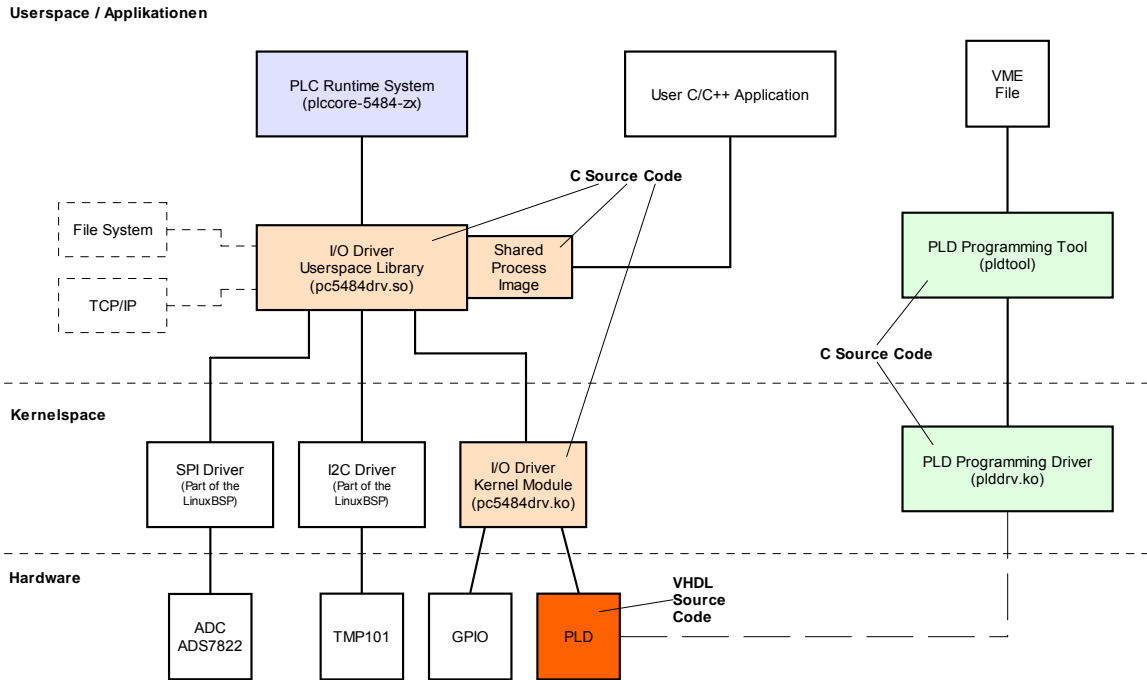

Figure 33: Overview of the Driver Development Kit for the PLCcore-5484
Figure 33 provides an overview of the DDK structure and its components. The DDK contains PLD resp. FPGA software sources (VHDL) as well as the source code of the Linux kernel driver (*pc5484drv.ko*) and the Linux user library (*pc5484drv.so*). Additionally, the DDK includes a PLD Programming Tool (*pldtool + plddrv.ko*) which allows for a PLD software update without extra JTAG hardware.
2. Source code for the Linux kernel driver (pc5484drv.ko, see Figure 33); includes all files necessary to regenerate kernel drivers (C and H files, Make file etc.)
3. Source code for the Linux user library (pc5484drv.so, see Figure 33); contains all files (incl. implementation of Shared Process Image) necessary to regenerate a user library (C and H files, Make file etc.)